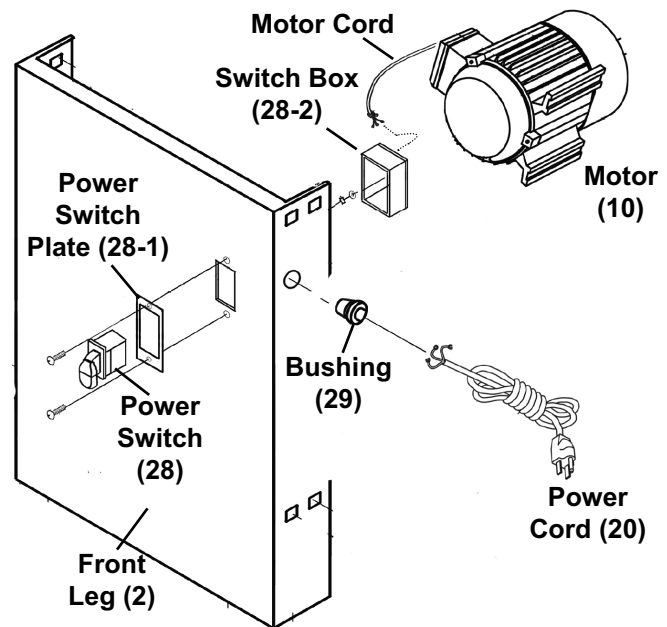
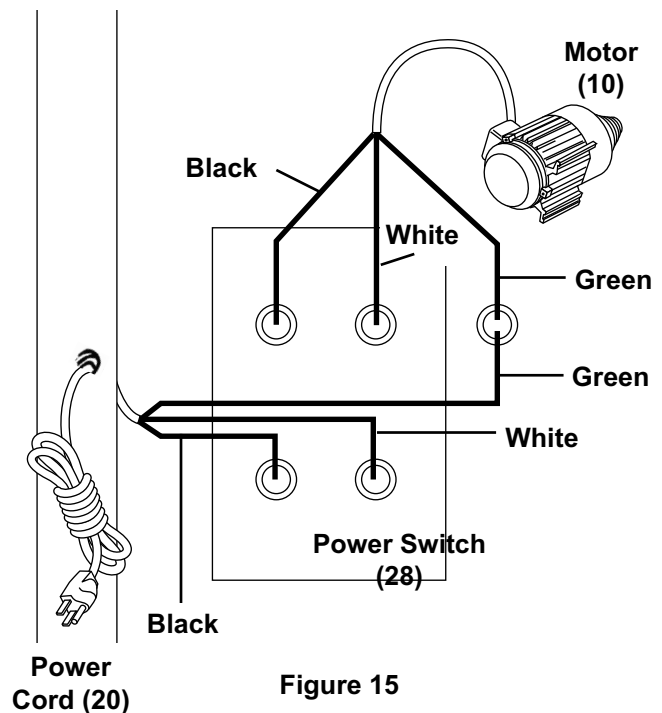

Figure 14
Figure 15
NOTE: See Figures 14 and 15 for instructions on connecting the Power Switch (28) and wiring the Power Cord (20).
1. See Figure 14 to feed the Power Cord (20) through the strain relief Brushing (29). Then feed the Power Cord through the hole on the side of the Front Leg (2). Be sure the Power Cord wires are long enough to reach the power switch hole plus a little slack.
3. Hold the Power Cord in place while pushing the strain relief Brushing (29) into the Front Leg side hole. Once in place, be sure Power Cord is secure to the Front Leg panel.
5. See Figure 15 to connect the Motor Cord and Power Cord wires to the Power Switch. On the Power Switch, connect the Power Cord wires to the bottom connections (black "hot" wire, white "neutral" wire, and green "ground" wire). Connect the Motor cord wires to the top connections. Be sure the wires colors line up top to bottom: Black with black, white with white, and green with green.
- Note:** The two green wires are attached to the screw to the right of the Power Switch. Tighten its Nut (27) to secure in place.
6. From the inside of the Front Leg (2), attach the Switch Box (28) to the back of the Power Switch. Secure Switch in place using Screws (23).